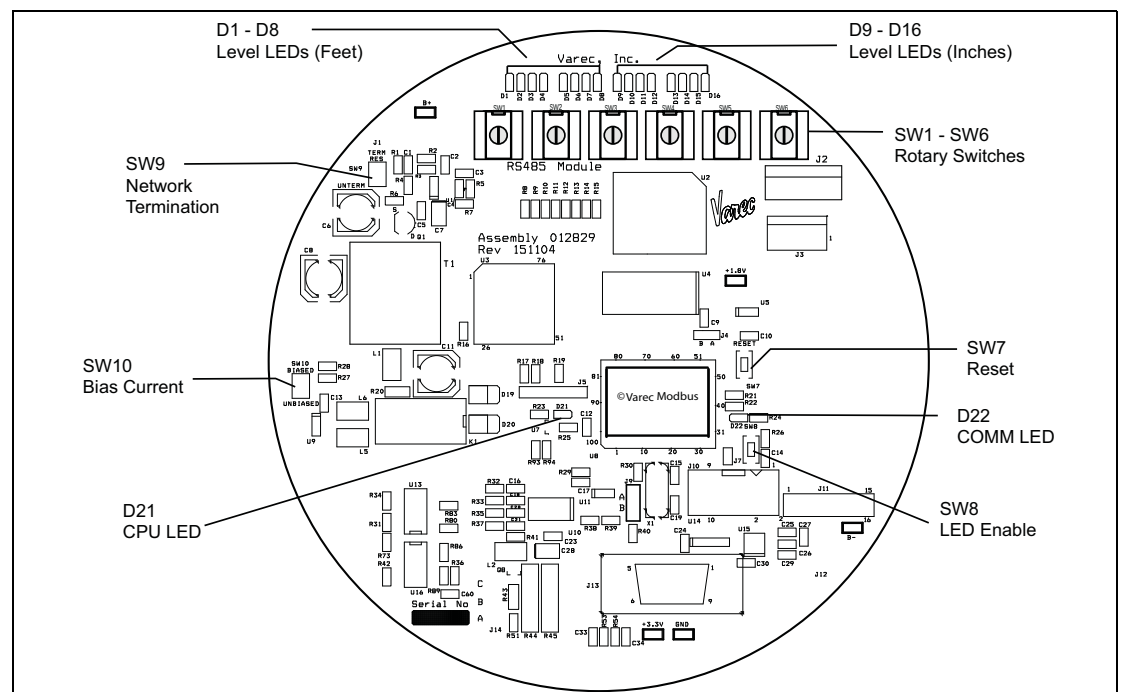

Figure 5-1: Modbus Communication Board Switches and LEDs
Figure 5-1 shows the Modbus communications circuit board switch and LED locations.
**Note** To activate the LEDs on the communications circuit board, press switch SW8 shown in Figure 5-1 on page 31. The LEDs will be enabled for about three minutes.